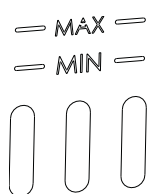

Figure 6
**Cold Medium** - when filling with cold medium (*see Figure 6*), DO NOT FILL MEDIUM PAST -MIN- LEVEL MARK (*Maximum cold fill mark*) also, for Solid Medium - See Section 10.
(*See Figure 6*).